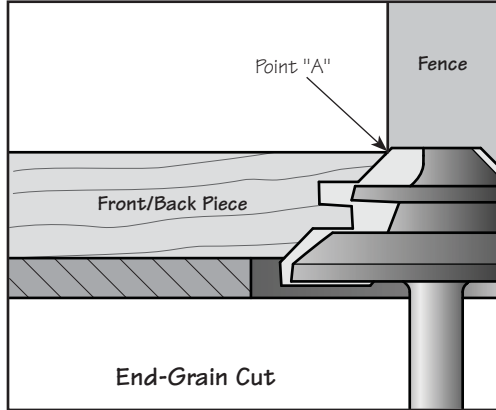

Figure 5: Perfecting the fence position.
- Once the bit height has been perfected, use a front piece to set the fence position. As shown in **Figure 5**, the face of the fence, top surface of the front piece and router bit cutting profile should all contact point "A".